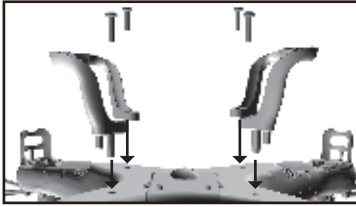

FIG. 1
1. Install the landing skids to the bottom of the quad-copter (Figure 1).
1. Push the camera into the hold below the battery cover (Figure 1).